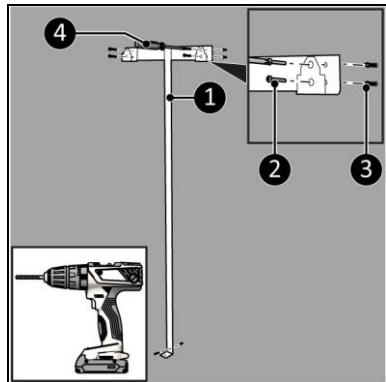

Figure 7
4. Place the wall bracket against the wall and mark the five holes (Figure 7).
6. Place the plugs (Figure 7, pos. 3).
7. Screw and tighten the wall bracket (Figure 7, pos. 1) to the wall with five large screws (Figure 7, pos. 2) using a Phillips screwdriver (Figure 7, pos.4).